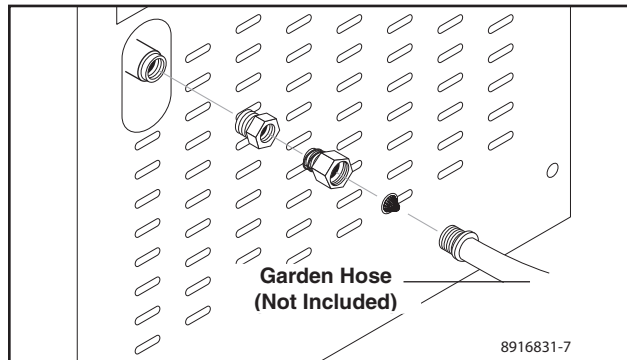

Figure 3 - Float Tank/Garden Hose Adapter
4. Install garden hose adapter on float tank as shown in **Figure 3**.